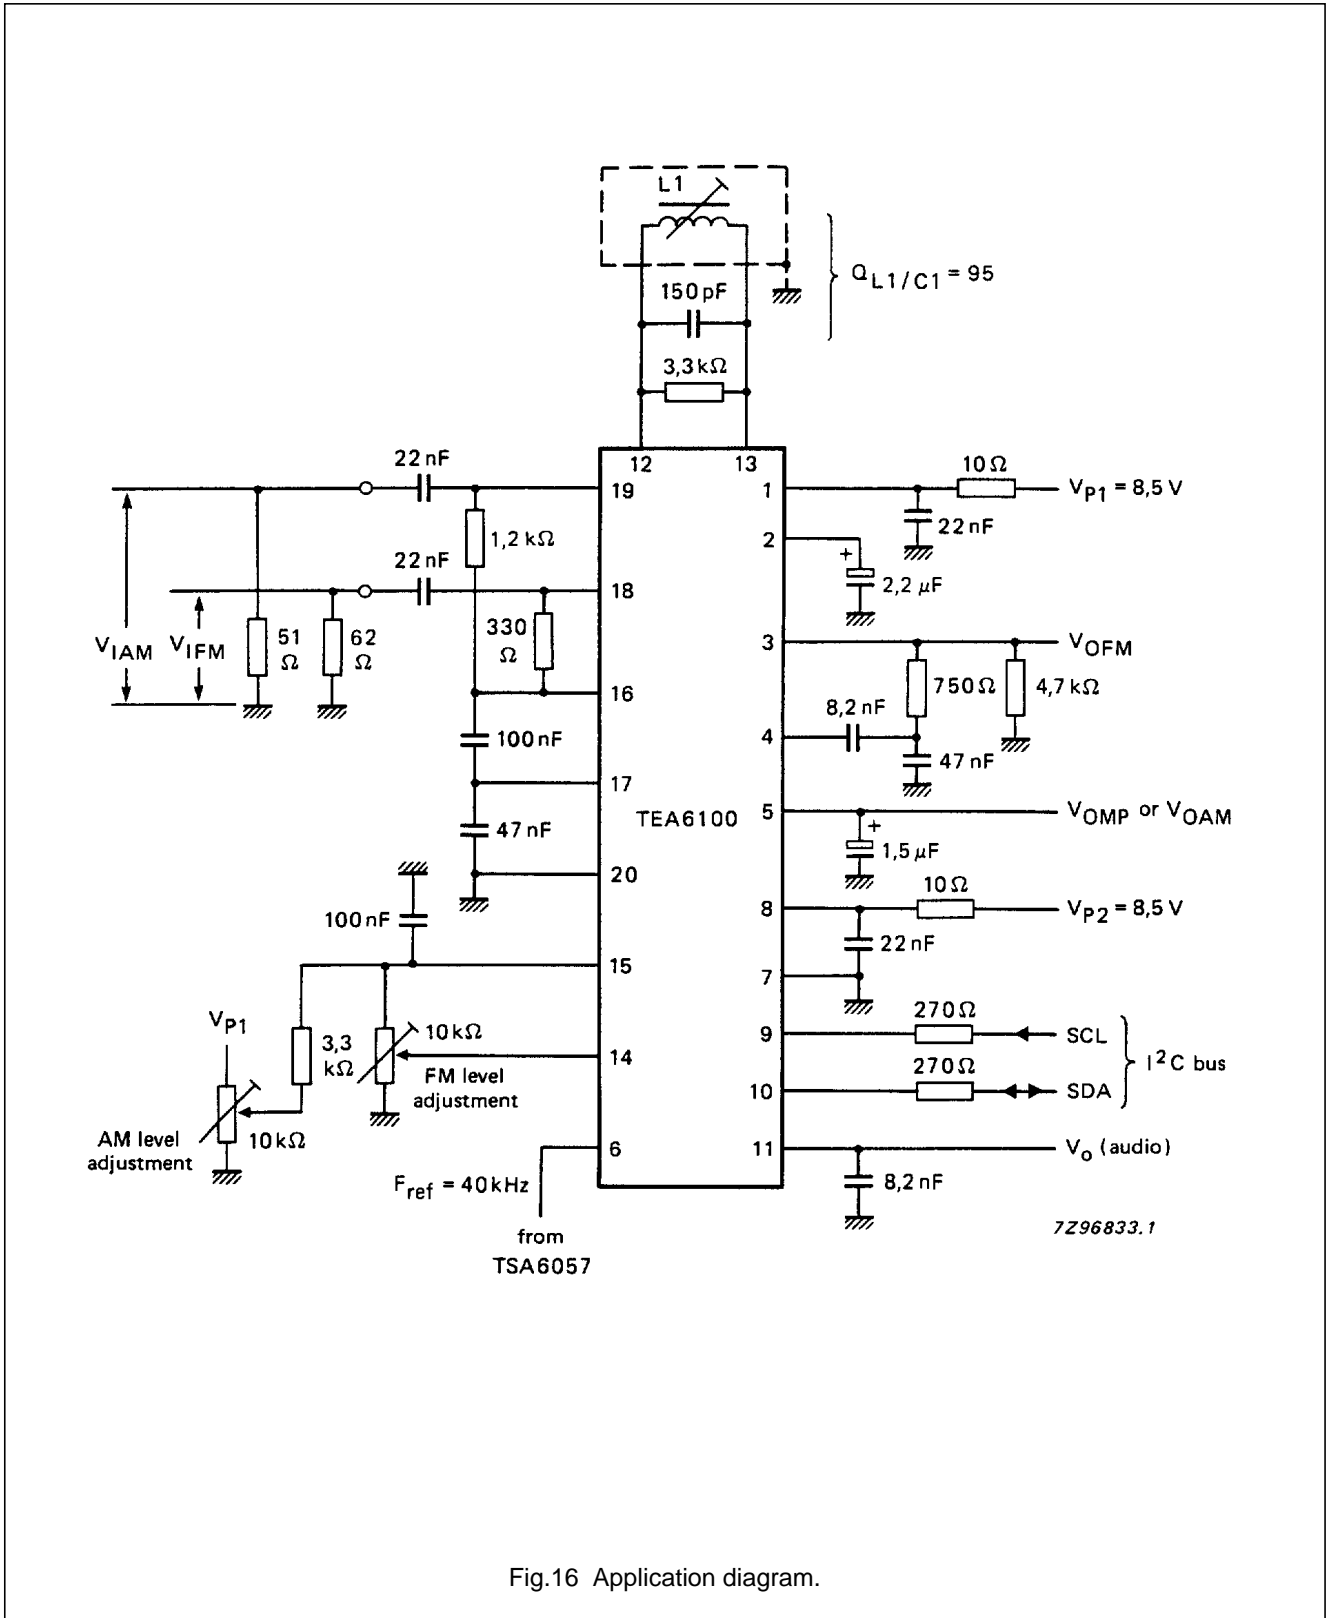

Fig.16 Application diagram.
see Fig.16; note 3
1. All characteristics are measured from the circuit shown in Fig.16.